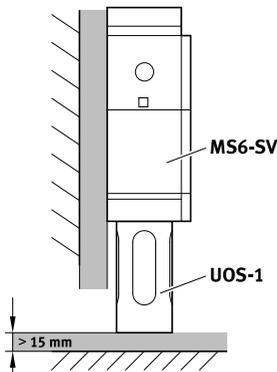

Fig. 6: Mounting
- Observe the minimum distance of 15 mm below the silencer → Fig. 6.